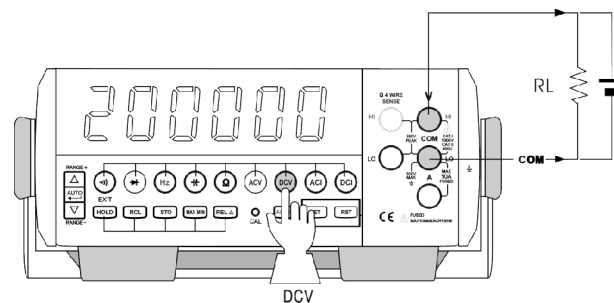

Figure 5
1. DC voltage measurement (See Figure 5)